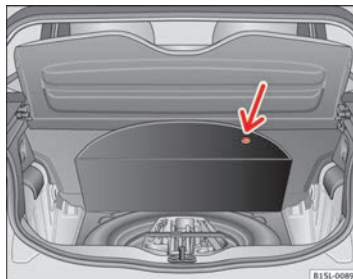

Fig. 136 In the luggage compartment: The carpet is raised
The vehicle tool kit, spare wheel, temporary spare wheel and the tire mobility set are stored in the luggage compartment under the carpeted floor panel ⇒ Fig. 136.
- Raise the carpet at the recess (arrow) ⇒ Fig. 136.